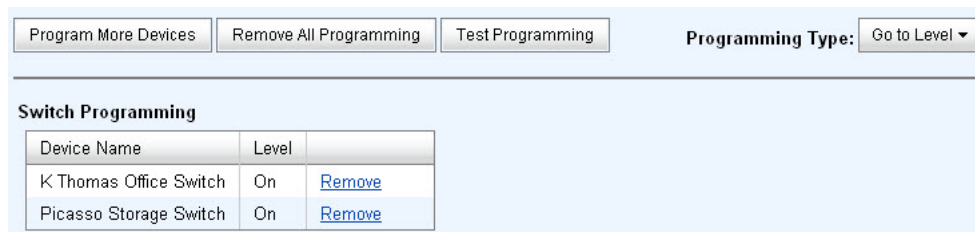

FIG. 43 Switch Programming details
3. Click **Add** to save your changes. This opens the *Switch Programming* pane (FIG. 43).